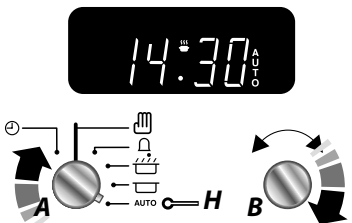

Fig. 2.30
5. Once the specified time has elapsed it will emit an alarm and the Multifunction Oven will stop working. The 'Cooking' symbol on the display will disappear and the word '**AUTO**' will flash (**Fig. 2.30**).
6. When you return, turn the **Timer (A)** knob to the **Manual (D)** setting to return to manual cooking and reset the Multifunction Oven modes once cooking is complete (**Fig. 2.30**).